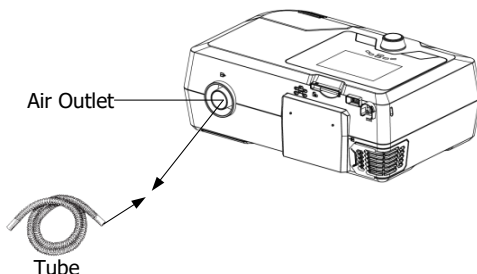

Fig. 11-4
(1) Connect one end of the tube to the air outlet of the device, as shown in Fig. 11-4.